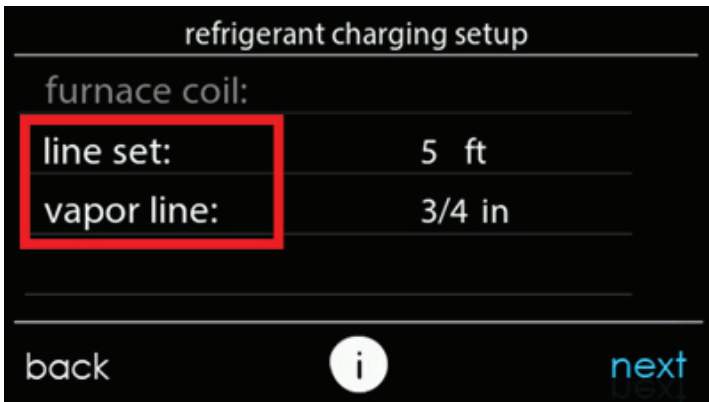
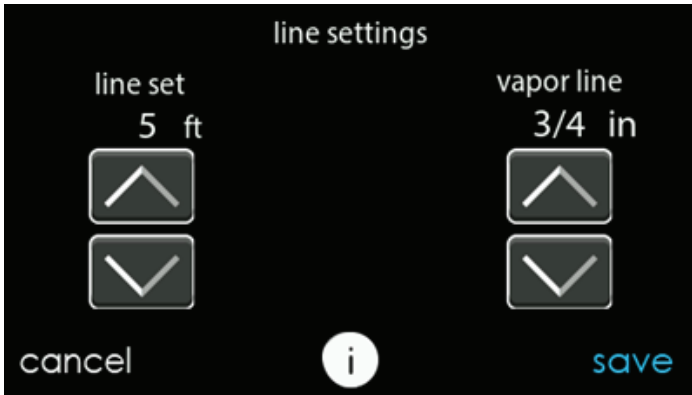

Fig. 17 – Select Line Set Length & Vapor Line Diameter A200035
Fig. 18 – Adjust Line Set Length & Vapor Line Diameter that is Installed A200036
11. Press the text "line set" and "vapor line" to choose line set length and vapor line diameter (see Fig. 17 and Fig. 18). After complete, press "next" to advance to next screen.